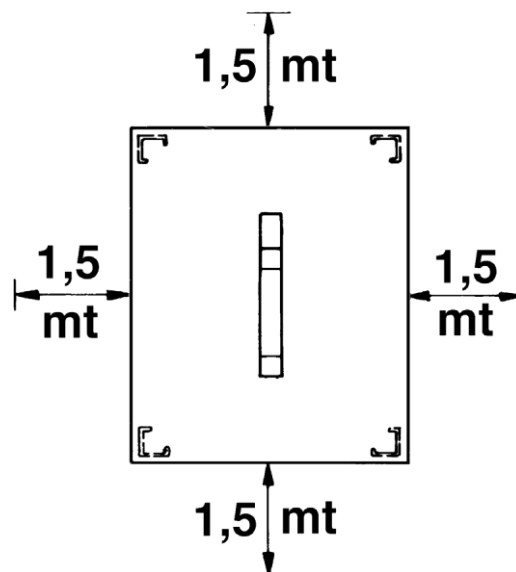

Fig.1
3.2 POSITIONING THE MACHINE (fig. 1)